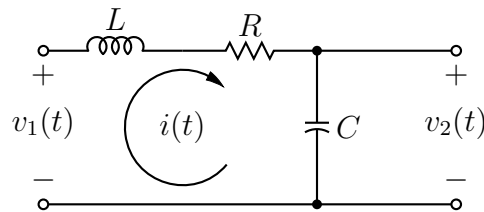

Figure 1: Problem 1.
1. For the electric circuit shown in Fig. 1, **find** the following: